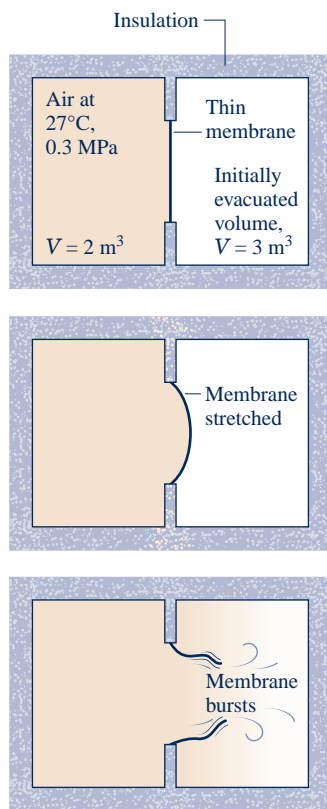

Fig. P3.127
3.127 As shown in Fig. P3.127, one side of a rigid, insulated container initially holds 2 m³ of air at 27°C, 0.3 MPa. The air is separated by a thin membrane from an evacuated volume of 3 m³. Owing to the pressure of the air, the membrane stretches and eventually bursts, allowing the air to occupy the full volume. Assuming the ideal gas model for the air, determine (a) the mass of the air, in kg, (b) the final temperature of the air, in K, and (c) the final pressure of the air, in MPa.